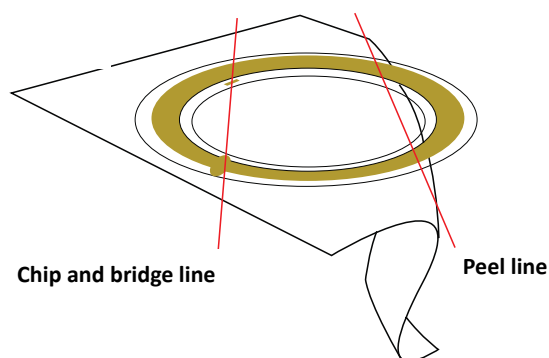

Figure 5-3
1. Start peeling the backing strip away at the “peel from here” point shown in Figure 5-3 to achieve a peel line as shown.